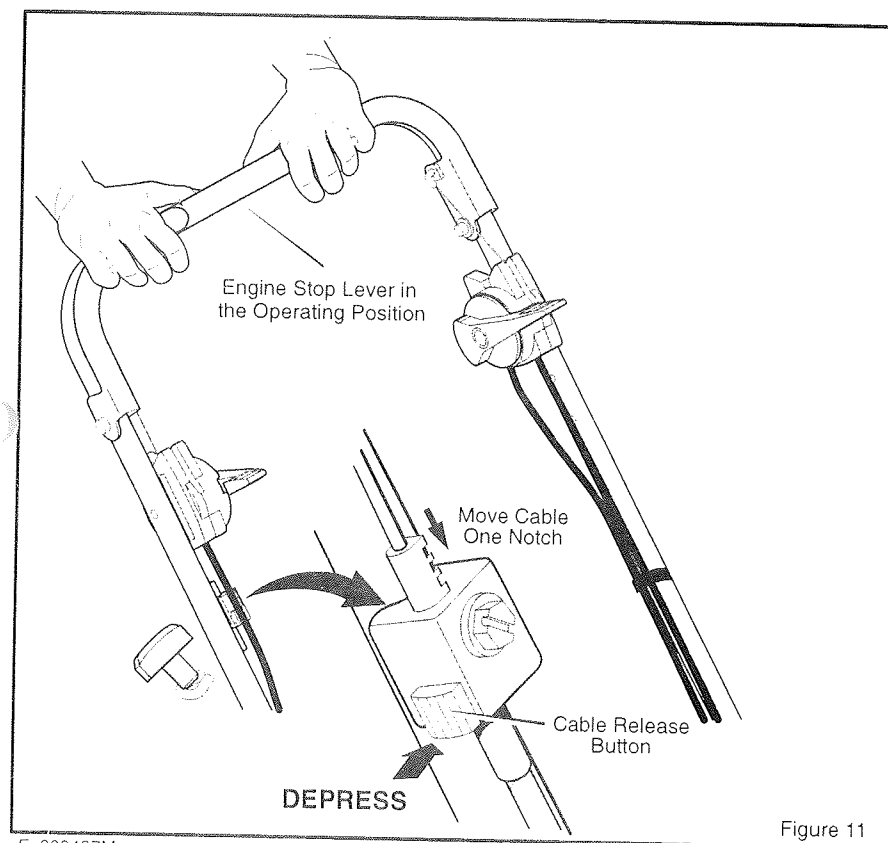

Figure 11
- Depress the **cable release button**. Move the **cable** down one notch as shown in Figure 11.